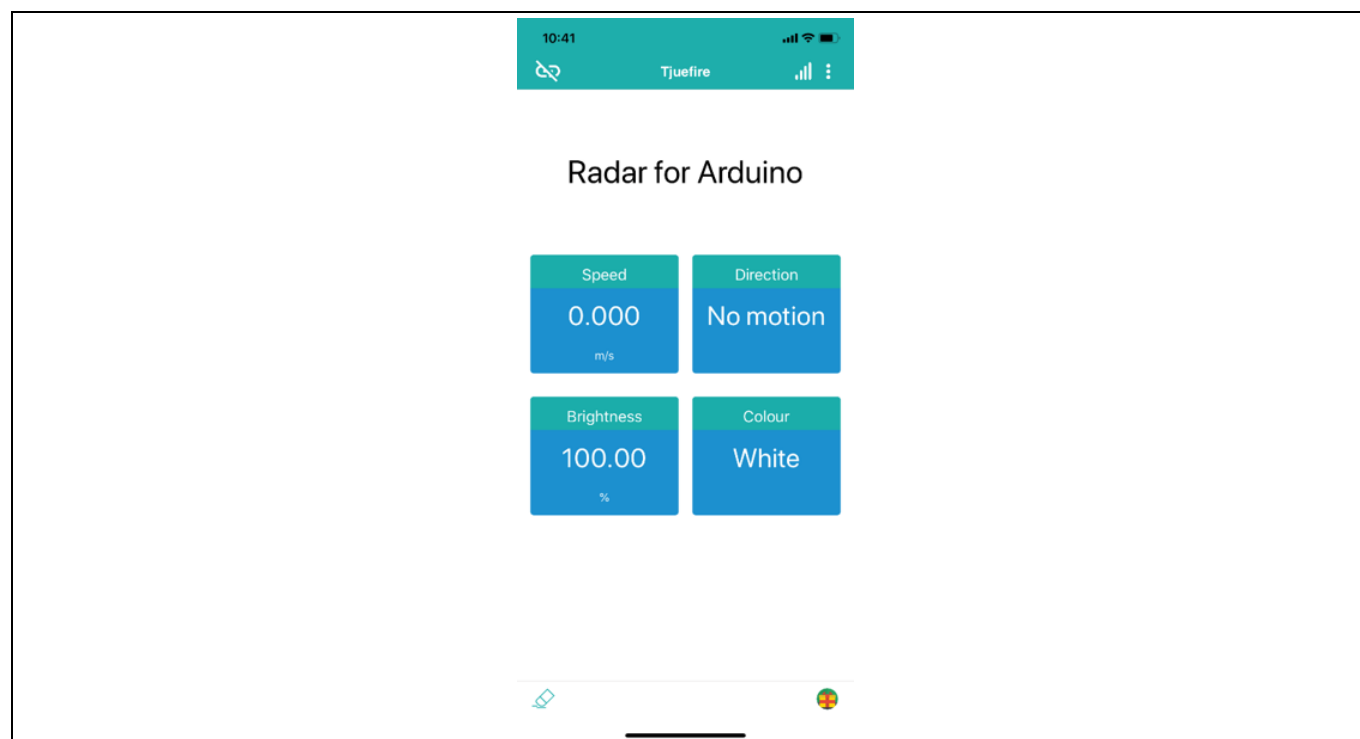

Figure 35 Andee app – GUI upon successful connection
17. Upon successful connection, the GUI should appear on the app (Figure 35). In case this does not happen, disconnect from the app, press the reset button on the Radar Baseboard XMC4700 and retry the connection.